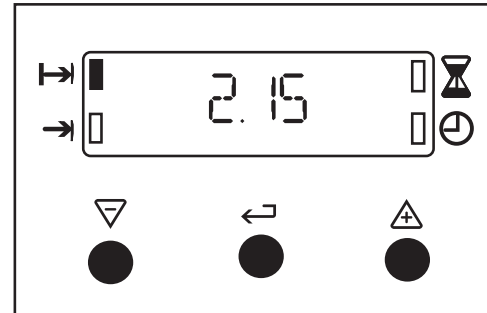

Fig.10.
- iii) To set the length of cooking time, press the Selector Control button until the 'Cook Time' indicator neon is illuminated. Press the increase control ( + ) until the required length of cooking time is displayed, e.g. 2 hrs 15 mins as Fig. 10. Depress the decrease control ( - ) if necessary.